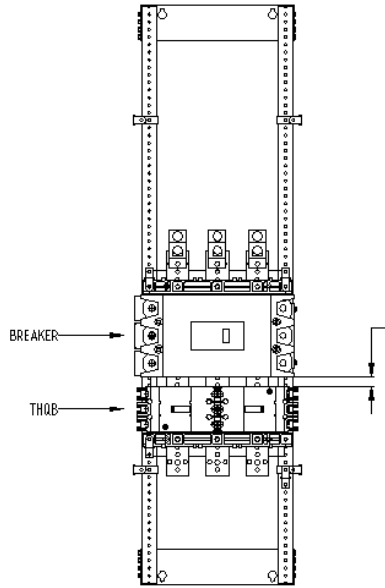

Figure 4. Distance between breakers
9. If THQB breaker has to be installed after SG or SF/TFJ or SE/TED/FB/TQD as shown in Figure 4 then gap between the breakers (dim A) has to be followed as mentioned in Table 2. Replace the subsequent blank filler of dead front with THQB filler plate given in kit using steps 9 to 11.